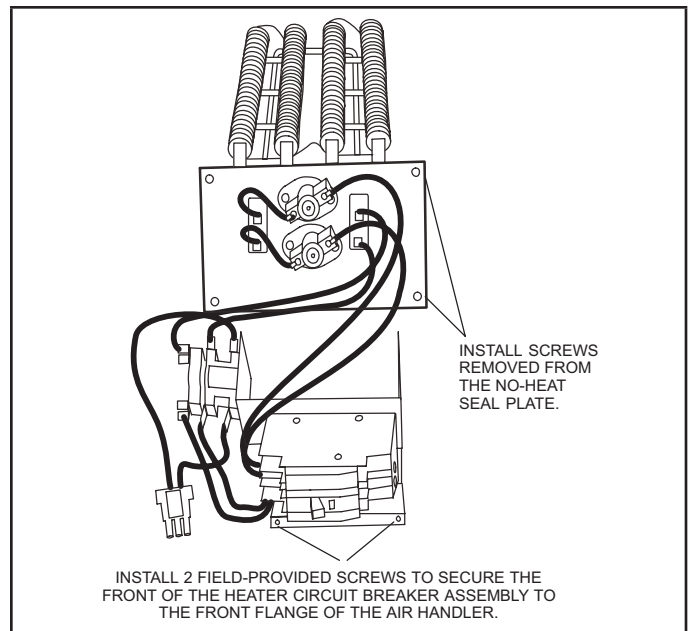

FIGURE 2. Installing the Heat Element Assembly
- 6 - Secure the electric heater assembly into place with the screws that were removed from the No-Heat plate. Install two field-provided #8 SDST screws in the front of the electric heater assembly (see figure 2).